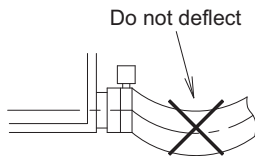

Fig. 27
- Do not deflect the drain hose (1) inside of the indoor unit. (Refer to Fig. 27)